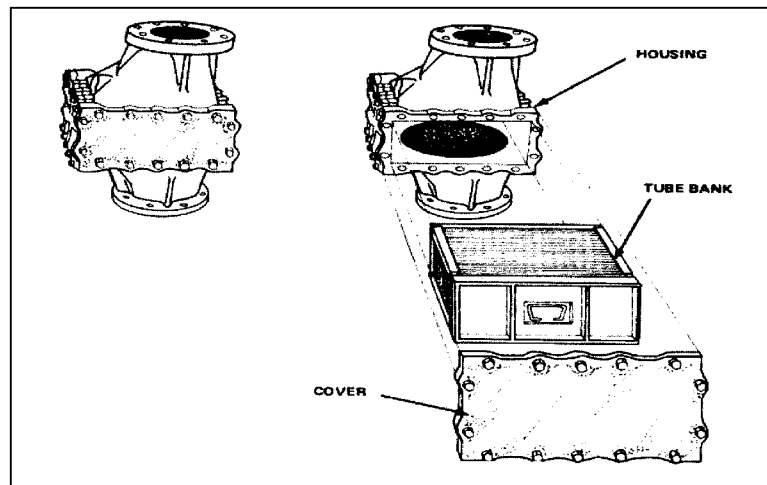

Figure 1-2. Flame arrester and tube bank.
- **Flame arrester.** Flame arresters (Figure 1-2) are used to prevent flashback into a tank in case of fire. The flame arrester is usually placed between the roof and the vent. One type of flame arrester consists of a tight coil of fine wire mesh enclosed in a heavy casing which is flanged to the roof.